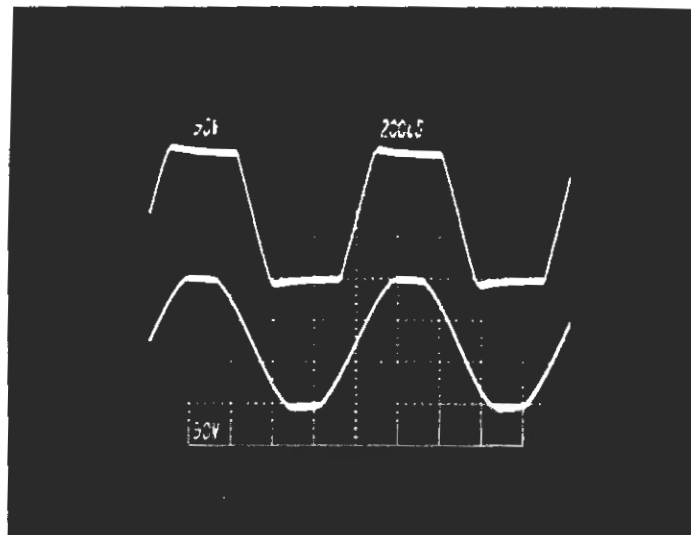

FIG 7
- Figure 7 Top trace is waveform driven 15 dB into clipping with